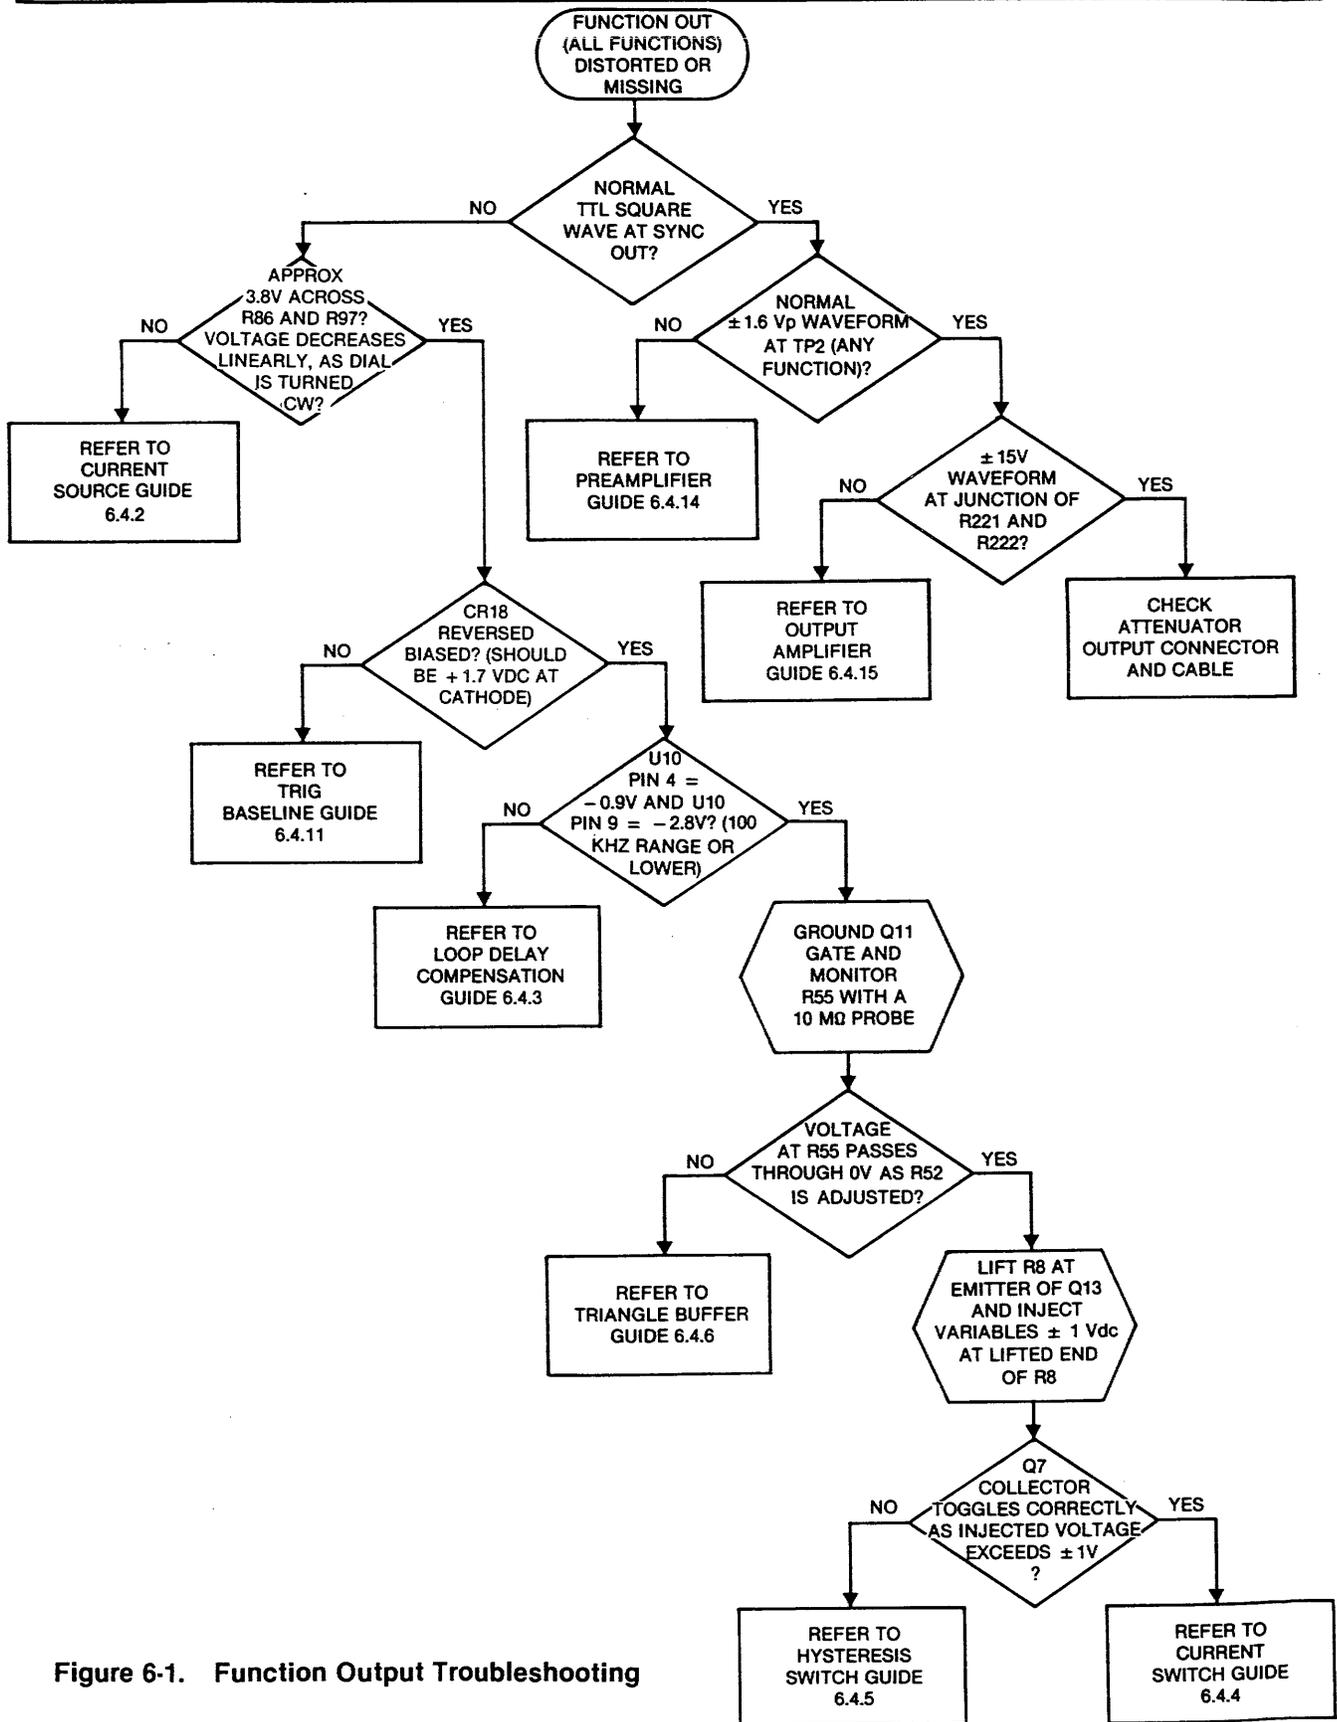

Figure 6-1. Function Output Troubleshooting
delay compensation circuit appears normal, refer to figure 6-1.
6. If none of the above conditions apply, refer to figure 6-1.